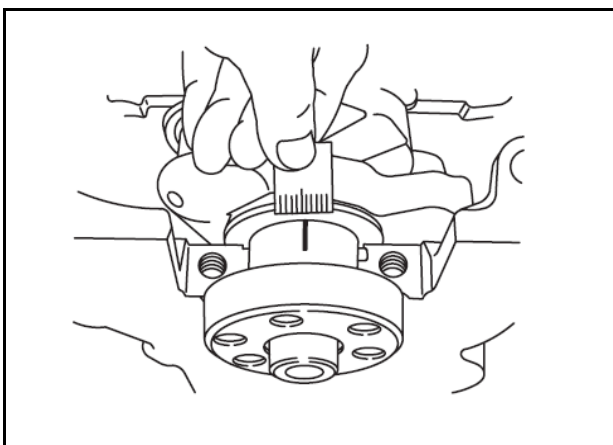

Fig.6-Measure Clearance
3. Remove the bearing cap. Measure the plastigage at its widest point, Fig. 6. If the clearance is not within specification, replace the bearings.